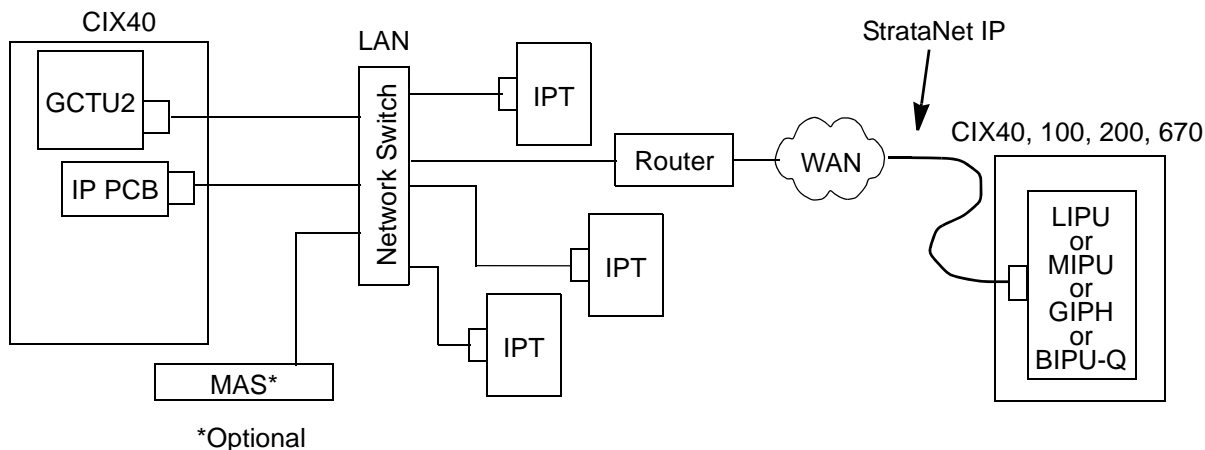

Figure 3-1 IP LAN Connections
2. Plug the other end of the LAN cable into a LAN or server jack refer to Figure 3-1. The GIPU8, GIPH or MIPU cable is a straight-through cable.